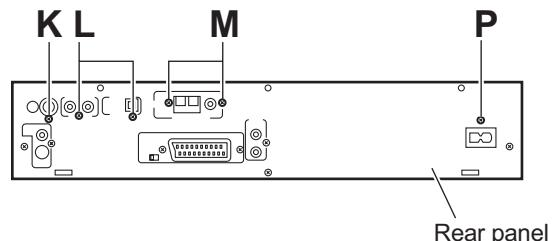

Fig.10
- (3) From the back side of the main body, remove the screw **K** and two screws **L** attaching the audio & digital input board to the rear panel. (See Fig.10.)
- (4) Take out the audio & digital input board from the main body.
- (2) From the back side of the main body, remove the two screws **M** attaching the tuner to the rear panel. (See Fig.10.)
- (3) Take out the tuner from the main body.
- (3) From the back side of the main body, remove the screw **P** attaching the power supply board to the rear panel. (See Fig.10.)
- (4) Take out the power supply board from the main body.